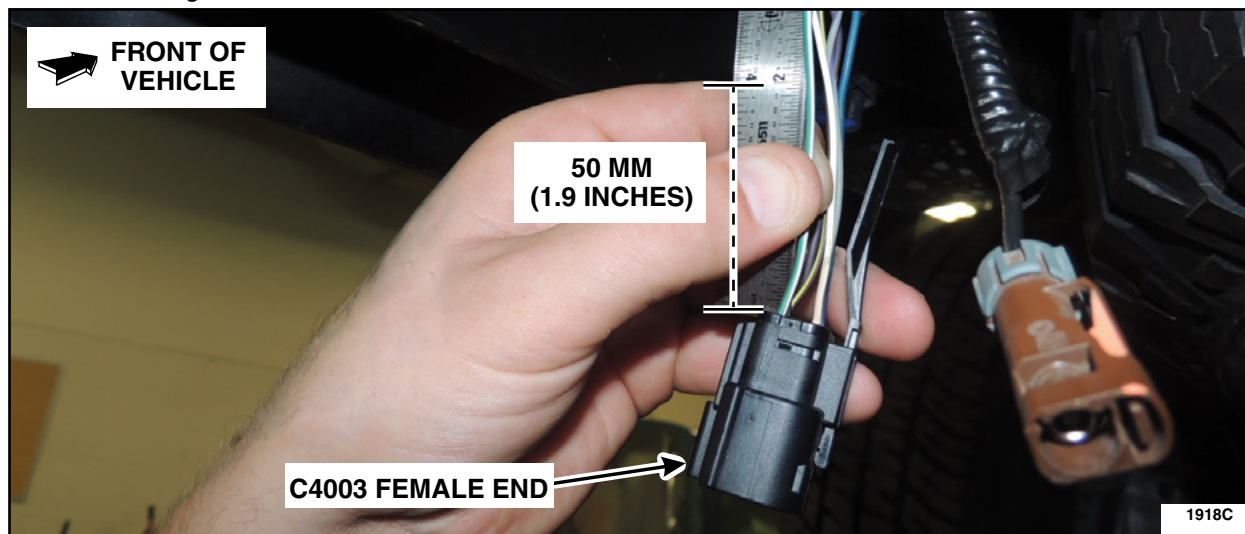

FIGURE 5
- Cut the Green-White (GN-WH) wire (cavity 1) 50 mm (1.9 in) from the back side of the C4003 female end. See Figure 5.